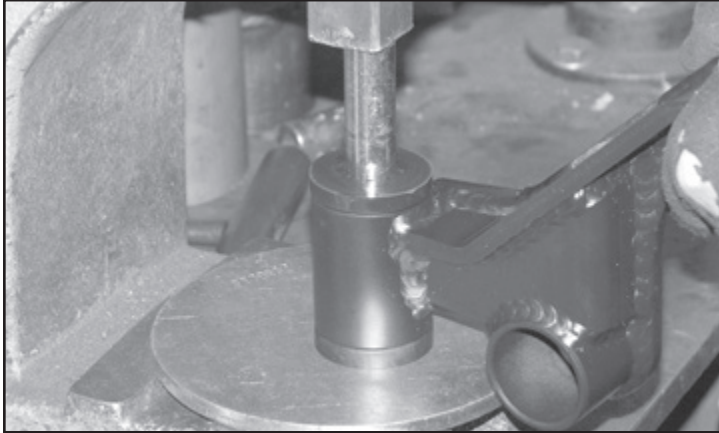

FIGURE 33 - STEP 33
33. Locate the rear diff mount (FT30585BK). Install two of the Fabtech (FT1020) bushings and one sleeve (FT181) into the barrel on the differential bracket. **SEE FIGURE 33**